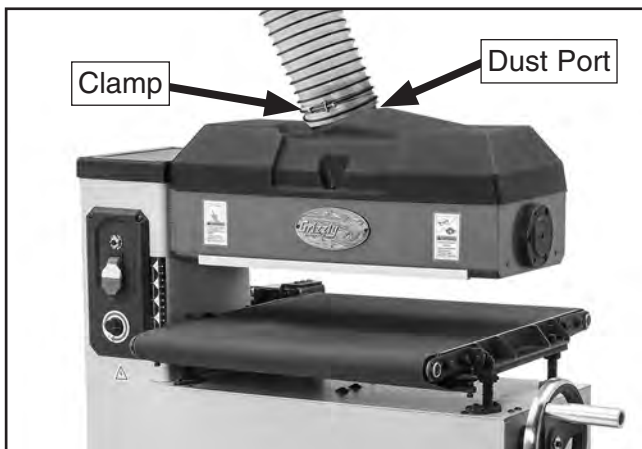

Figure 13. Dust hose and clamp installed.
1. Fit 4" dust hose over dust port, as shown in **Figure 13**, and secure in place with a hose clamp.